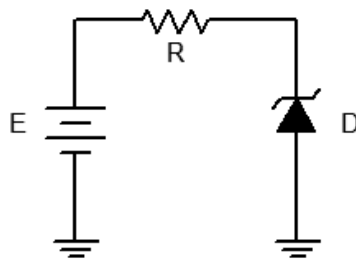

Figure 2.1
1. Consider the circuit of Figure 2.1 using  $R = 2.2 \text{ k}\Omega$ . For any positive value of  $E$  the zener is reverse biased. Until the zener potential is reached, the diode resistance is effectively infinite and thus no current flows. In this case the voltage across  $R$  is zero due to Ohm's Law. Consequently, all of  $E$  should appear across the zener. Once the source exceeds the zener voltage, the remainder of  $E$  (i.e.  $E$  minus the zener potential) drops across  $R$ . Thus, as  $E$  increases, the circulating current increases but the voltage across the zener remains steady.
2. Build the circuit of Figure 2.1 using  $R = 2.2 \text{ k}\Omega$ . Set  $E$  to 0 volts and measure both the diode's voltage and current and record the results in Table 2.1. Repeat this process for the remaining source voltages listed.
3. If the circuit of Figure 2.1 had been constructed with the zener reversed, how would this effect the results recorded in Table 2.1?